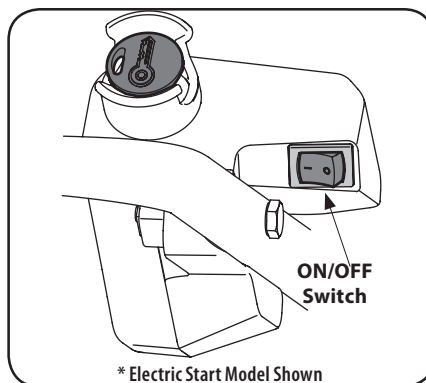

Figure 3-3
1. Push and hold the ON/OFF switch until the mower engine stops. See Figure 3-3.